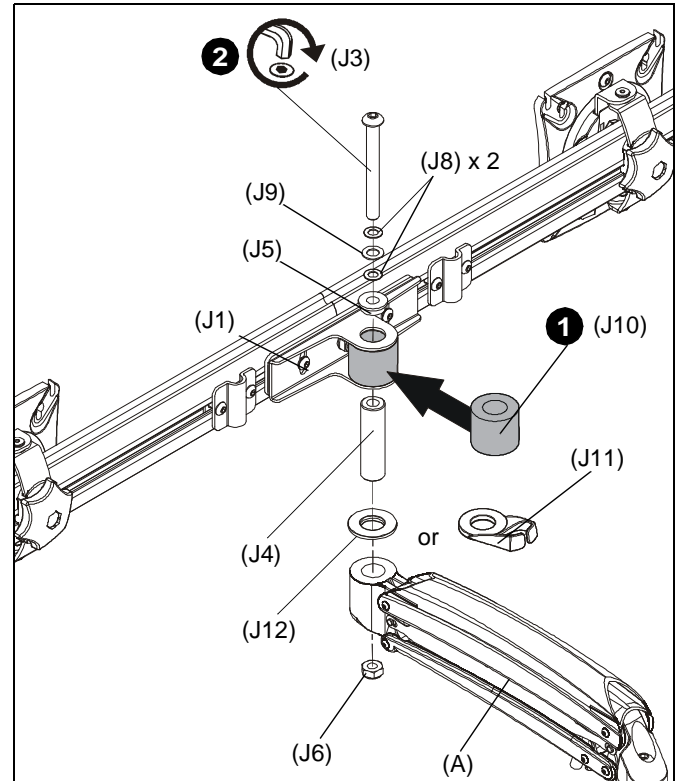

Figure 5
1. Slide rotational spacer (J10) into opening on array attachment bracket. (See Figure 5)
2. Use 5/16-18 x 3" button head cap screw (J3), two thin steel washers (J8), plastic spacer (J9), pocket washer (J5), pivot pin (J4), pivot point spacer (J12) and 5/16-18 lock nut (J6) to secure array (J1) to K1 arm (A). (See Figure 5)
NOTE: Cable clip (J11) can be used in place of pivot point spacer (J12) if additional cable management is desired. (See Figure 5)